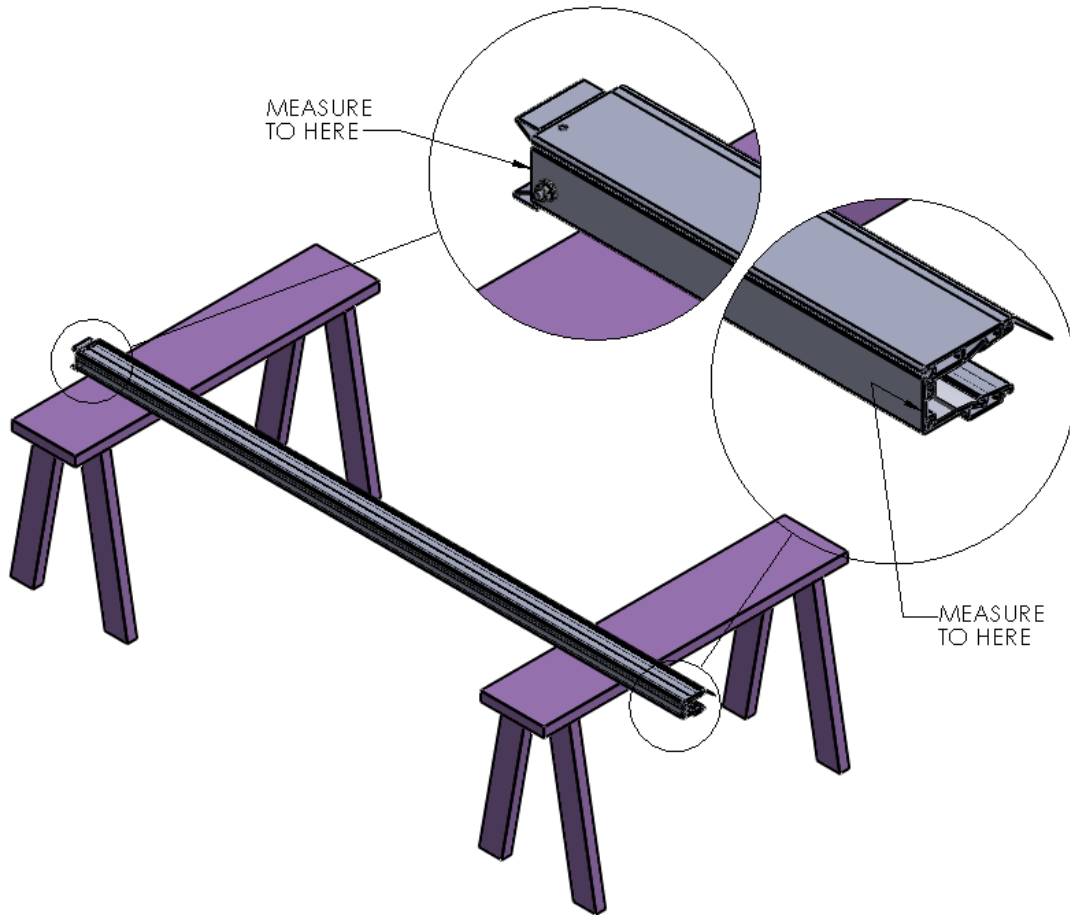
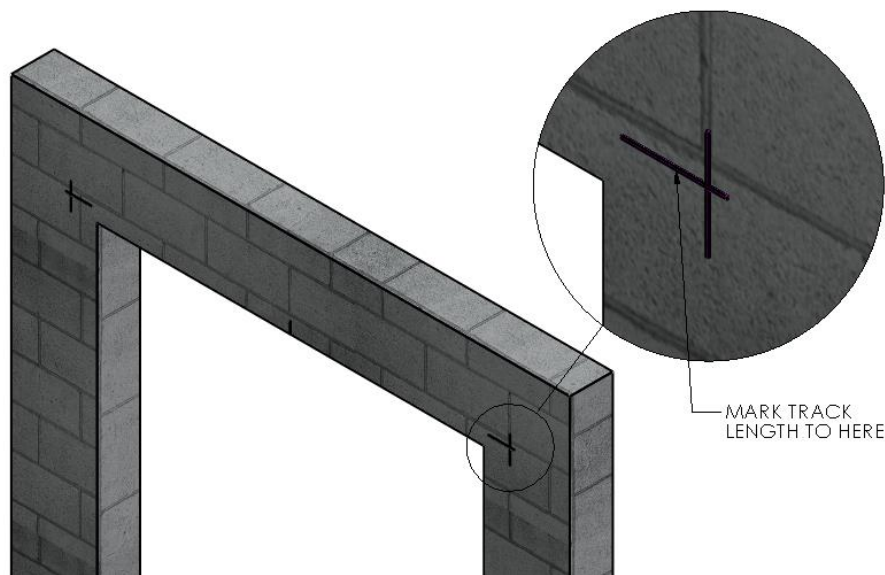

Figure 4 MEASURE TRACK HEIGHT
Figure 5 MARK TRACK HEIGHT
5. Set one of the Vertical Track Assemblies on your work surface and measure its overall length. Do not include the Transition piece in your measurement. Add  $\frac{1}{4}$ " to this number and take note. This is the height dimension needed to mark the location of the Header Bracket's bottom edge. With that number, mark a horizontal line on each side of the opening that intersects the previously drawn vertical line. (Figure 4 MEASURE TRACK HEIGHT) (Figure 5 MARK TRACK HEIGHT)